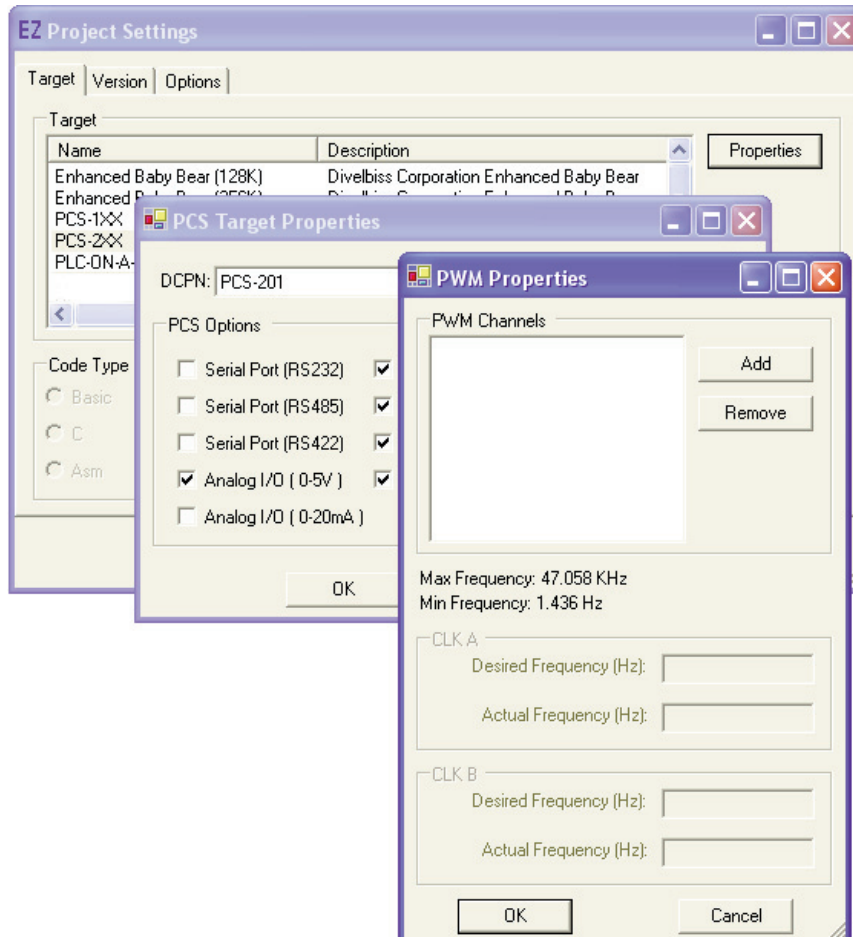

Figure 1.3
4. The *PWM Properties* window will open. See Figure 1.3.